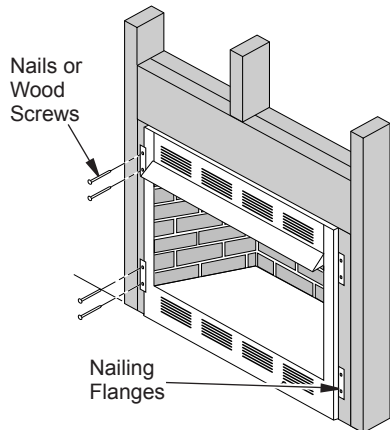

Figure 17 - Attaching Firebox to Wall Studs
7. Attach firebox to wall studs using nails or wood screws through holes in nailing flange (see Figure 17).